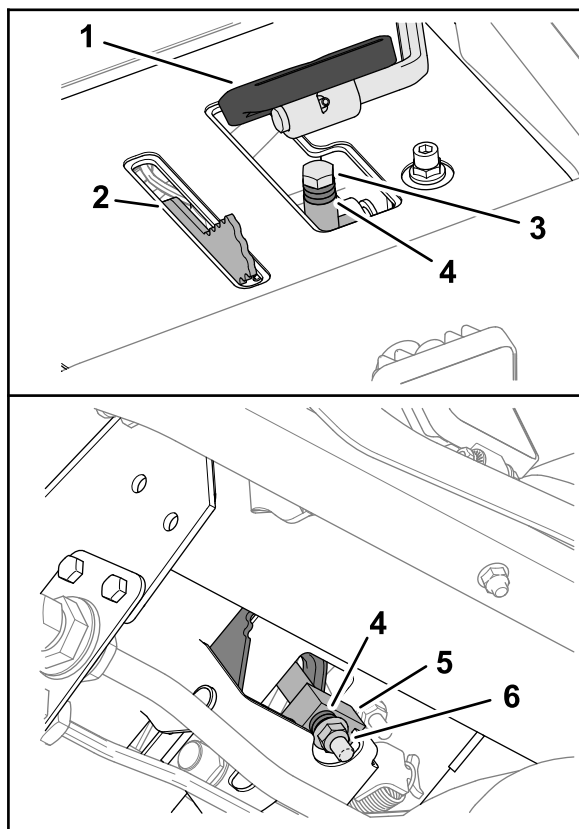

Figure 148
3. Below the traction pedal, remove the stop bolt and flange locknut that secure the spacers to the mow-stop block (Figure 148).